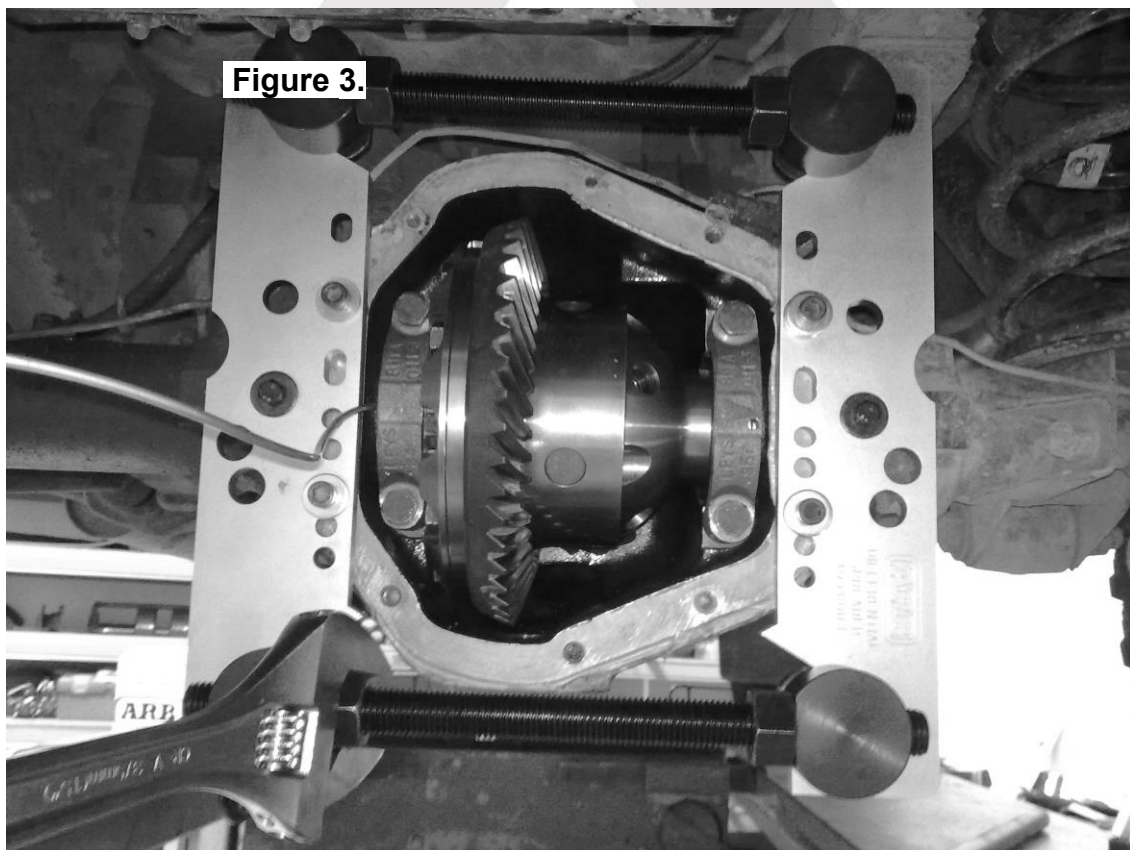

Figure 3.
Spreading the differential housing with a differential case spreader is a step which is critical to set up bearing pre-load (See Figure 3.). Improper pre-load will result in undue bearing wear, increased stresses in the differential center, increased running noise, and ultimately, ring and pinion gear damage.
- Carefully spread the housing (Fig.3.) enough to remove the differential center. (Refer to your vehicle's service manual).